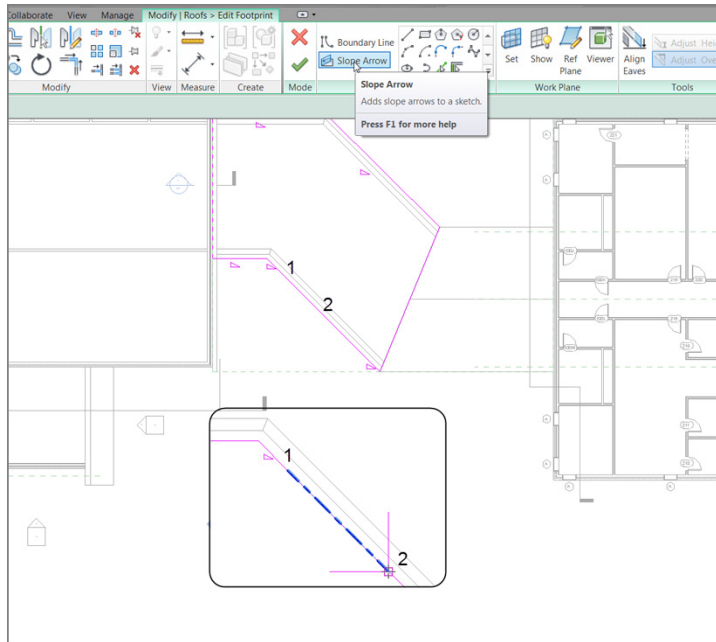

FIGURE 7.61: Adding the first slope arrow
2. For the first point of the slope arrow, click the endpoint of the first point you split (marked 1 in Figure 7.61).
3. For the second point of the slope arrow, pick the endpoint of the same line (see Figure 7.61).